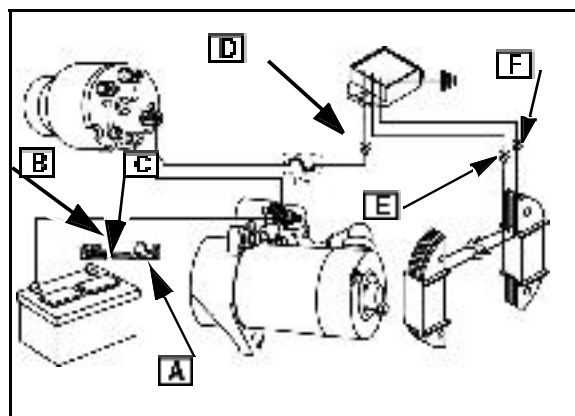

Fig. 19
3. Place DC Shunt #19468 on negative battery post. Install negative ([A] Fig. 19) cable on DC shunt battery terminal.
4. Connect multimeter test leads to DC shunt terminals, red to RED (B) and BLACK to BLACK ([C] Fig. 19).
- Disconnect battery ground cable from battery negative (-) terminal (A).
- Disconnect RED wire ([D] Fig. 19) from regulator/rectifier.
- Disconnect wires at (E) and (F) Fig. 19).